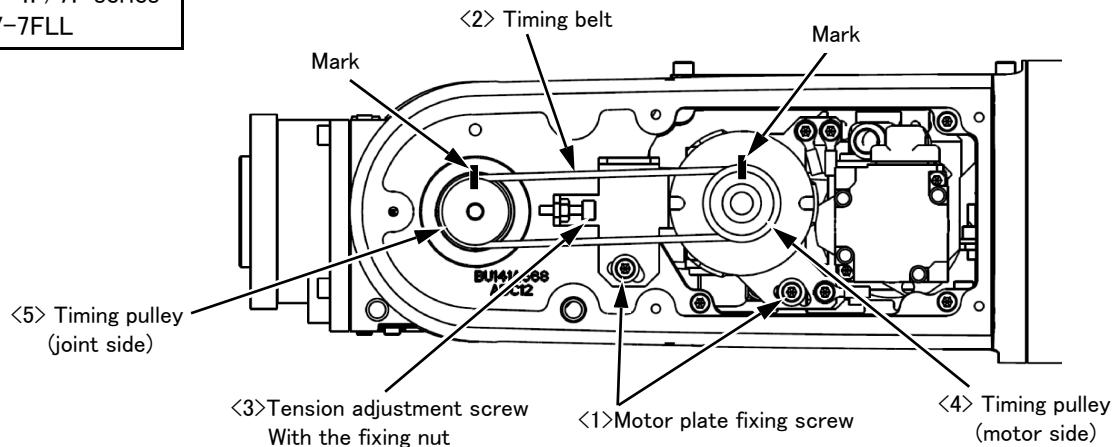
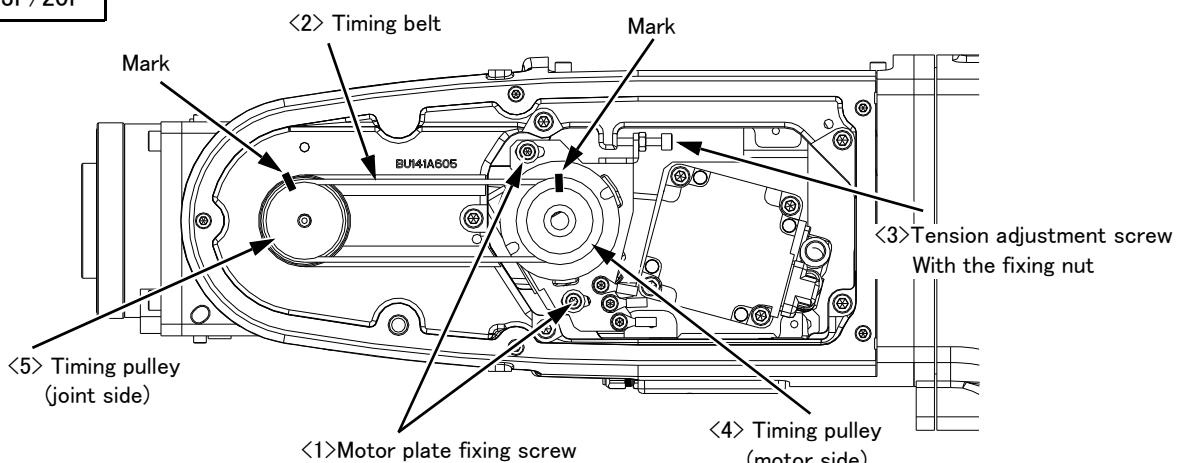

Fig.5-15 : Inspection, maintenance and replacement of J6 axis timing belt (RV-4F/7F series, RV-7FLL)
Fig.5-16 : Inspection, maintenance and replacement of J6 axis timing belt (RV-13F/20F)
The reference figure at inspection, adjustment, and replacement of the timing belt is shown in Fig. 5-15 (RV-4F/7F series, RV-7FLL) or Fig. 5-16 (RV-13F/20F).
- 3) Make marks on the timing belt <2> and timing pulleys <4> and <5> with a felt-tip pen as shown in Fig. 5-15 (RV-4F/7F series, RV-7FLL) or Fig. 5-16 (RV-13F/20F), so that the engagement of the timing belt <2> and timing pulleys <4> and <5> does not deviate.